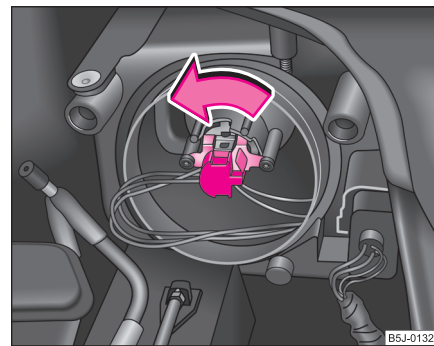

Fig. 173 Removing the
- For headlights with module (halogen lamp H7) ⇒ page 241, fig. 173 turn the connector with the halogen lamp to the left up to the stop and remove.